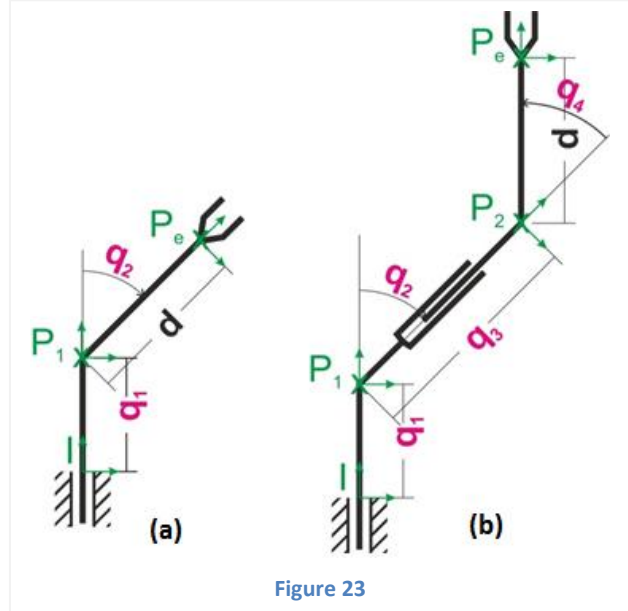

Figure 23
✎ Let's consider the motion of a planar robotic arm that is subject to explicit constraints as shown in Figure 23. For each of the two examples shown, compute the position and orientation of the robot at the points  $P_1(x_1 \ y_1 \ \gamma_1)$ ,  $P_2(x_2 \ y_2 \ \gamma_2)$  and of the end-effector at  $P_e(x_e \ y_e \ \gamma_e)$  as a function of the joint coordinates  $q_1 \dots q_4$  and the length of the final link  $d$ . The reference-frame I is located at the origin of the robot, the orientation of the robot segments  $\gamma$  is measured with respect to the vertical, and all angles are assumed to be positive in a counter clockwise direction. This means, in the figure,  $P_1$  is given by  $(0 \ q_1 \ 0^\circ)$ , the value of  $q_2$  is  $-45^\circ$ , and the value of  $q_4$  is  $+45^\circ$ .
For case (2) and the joint coordinates  $\mathbf{q}_b$ , your end-effector coordinates should be  $(-0.1799, 0.3616, 1.0472)$ . For case (1) which represents the configurations in Figure 23, draw the components of  $\mathbf{J}_a$  and  $\mathbf{J}_b$  that correspond to the translations of the points into the figure.